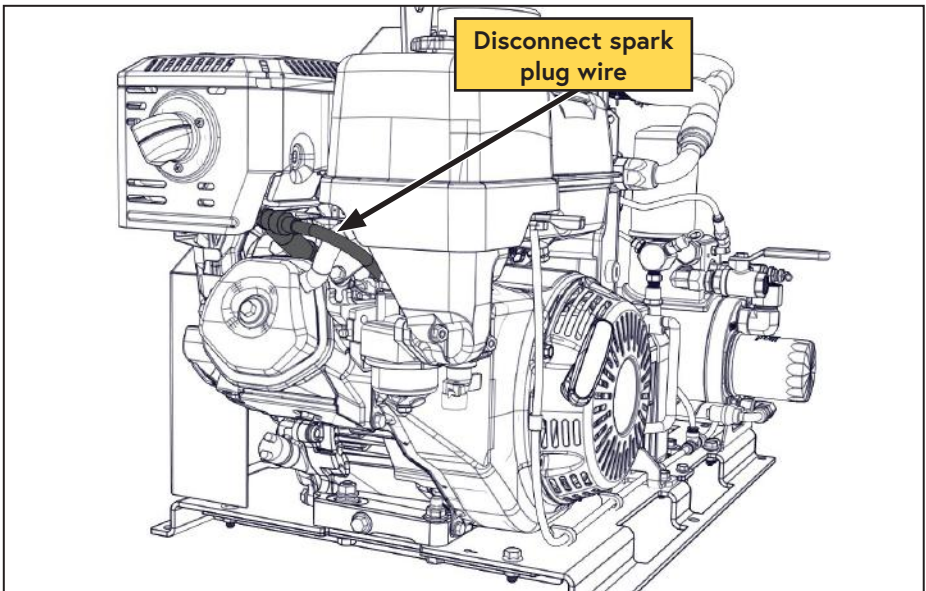

Figure 29 — Spark plug wire
- ☐ Disconnect the spark plug wire (Figure 29).